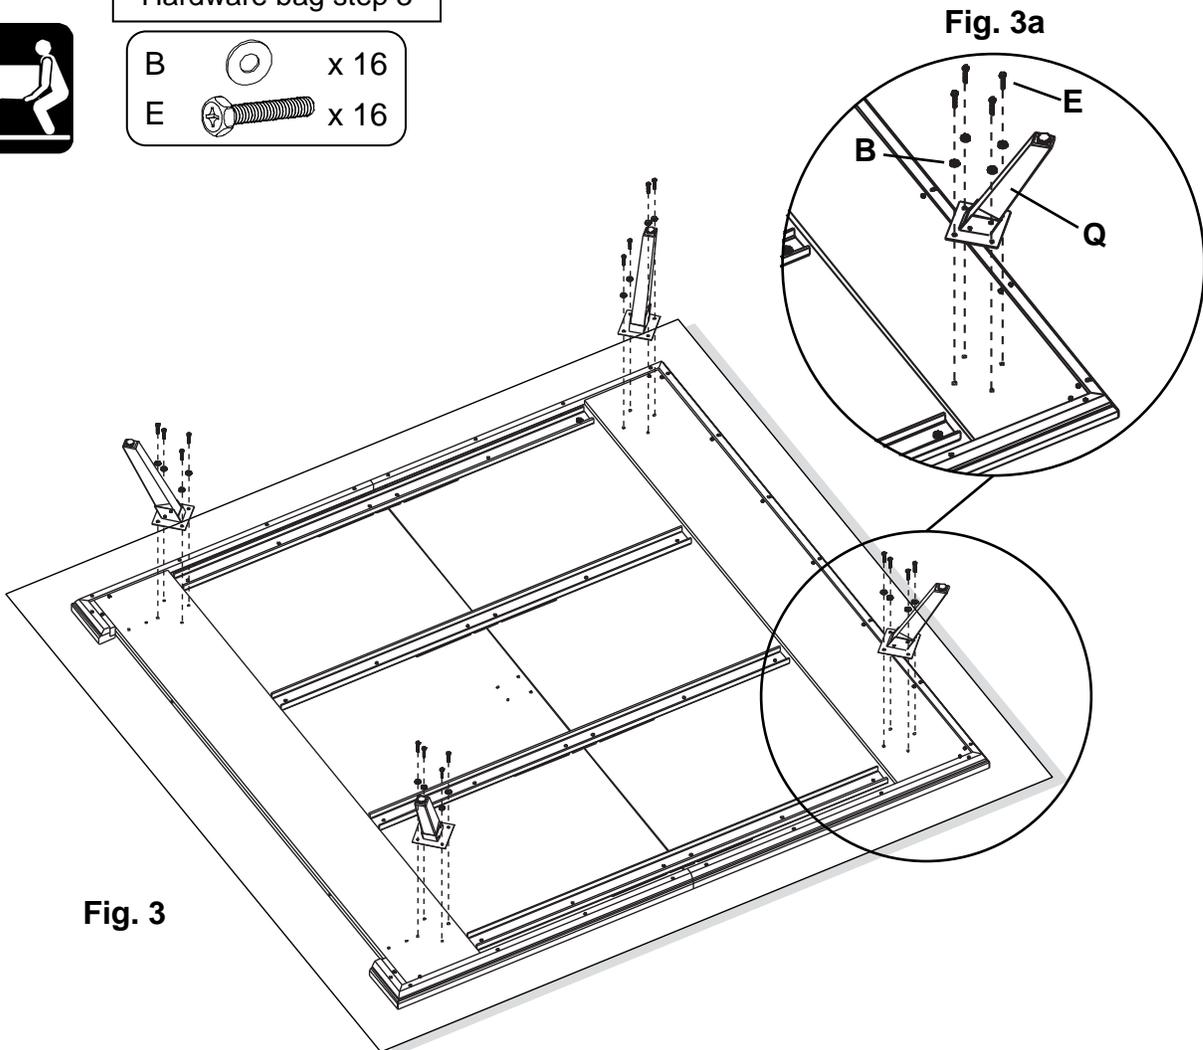

Fig. 3
3. Place the Foot Assemblies (Q) onto the Platform Assembly so that the holes in the metal brackets align over the predrilled holes. The legs should angle outward toward the corner of the platform. Attach the Foot Assemblies (Q) with 1/4" X 35mm Hex Bolts (E) and 18mm Flat washers (B). See Figures 3 and 3a.